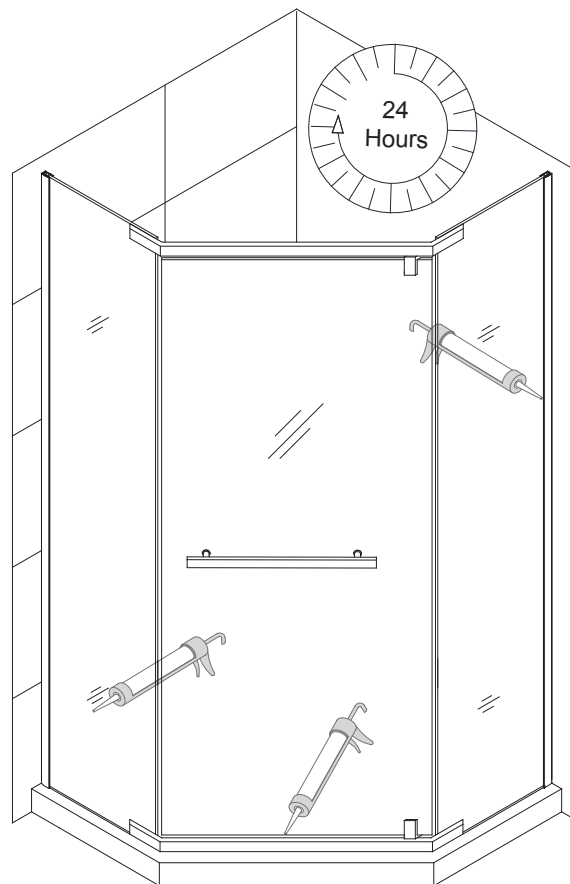

Fig 10
10. Apply a good quality mildew-resistant silicone along the interior edges of the **Panel Glass (#03)**, **Wall Profiles (#02)** and **Pivot Bar (#05)** to seal against the walls and threshold. (**Fig 10**)